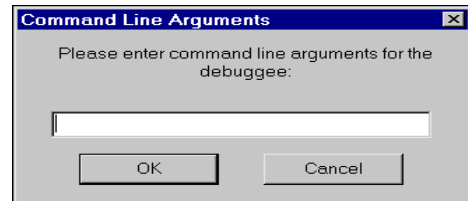

Figure 3-12 Command Line Arguments dialog
1. Select **Set Command Line Args** from the **Options** menu. The Command Line Arguments dialog (Figure 3-12) is displayed.